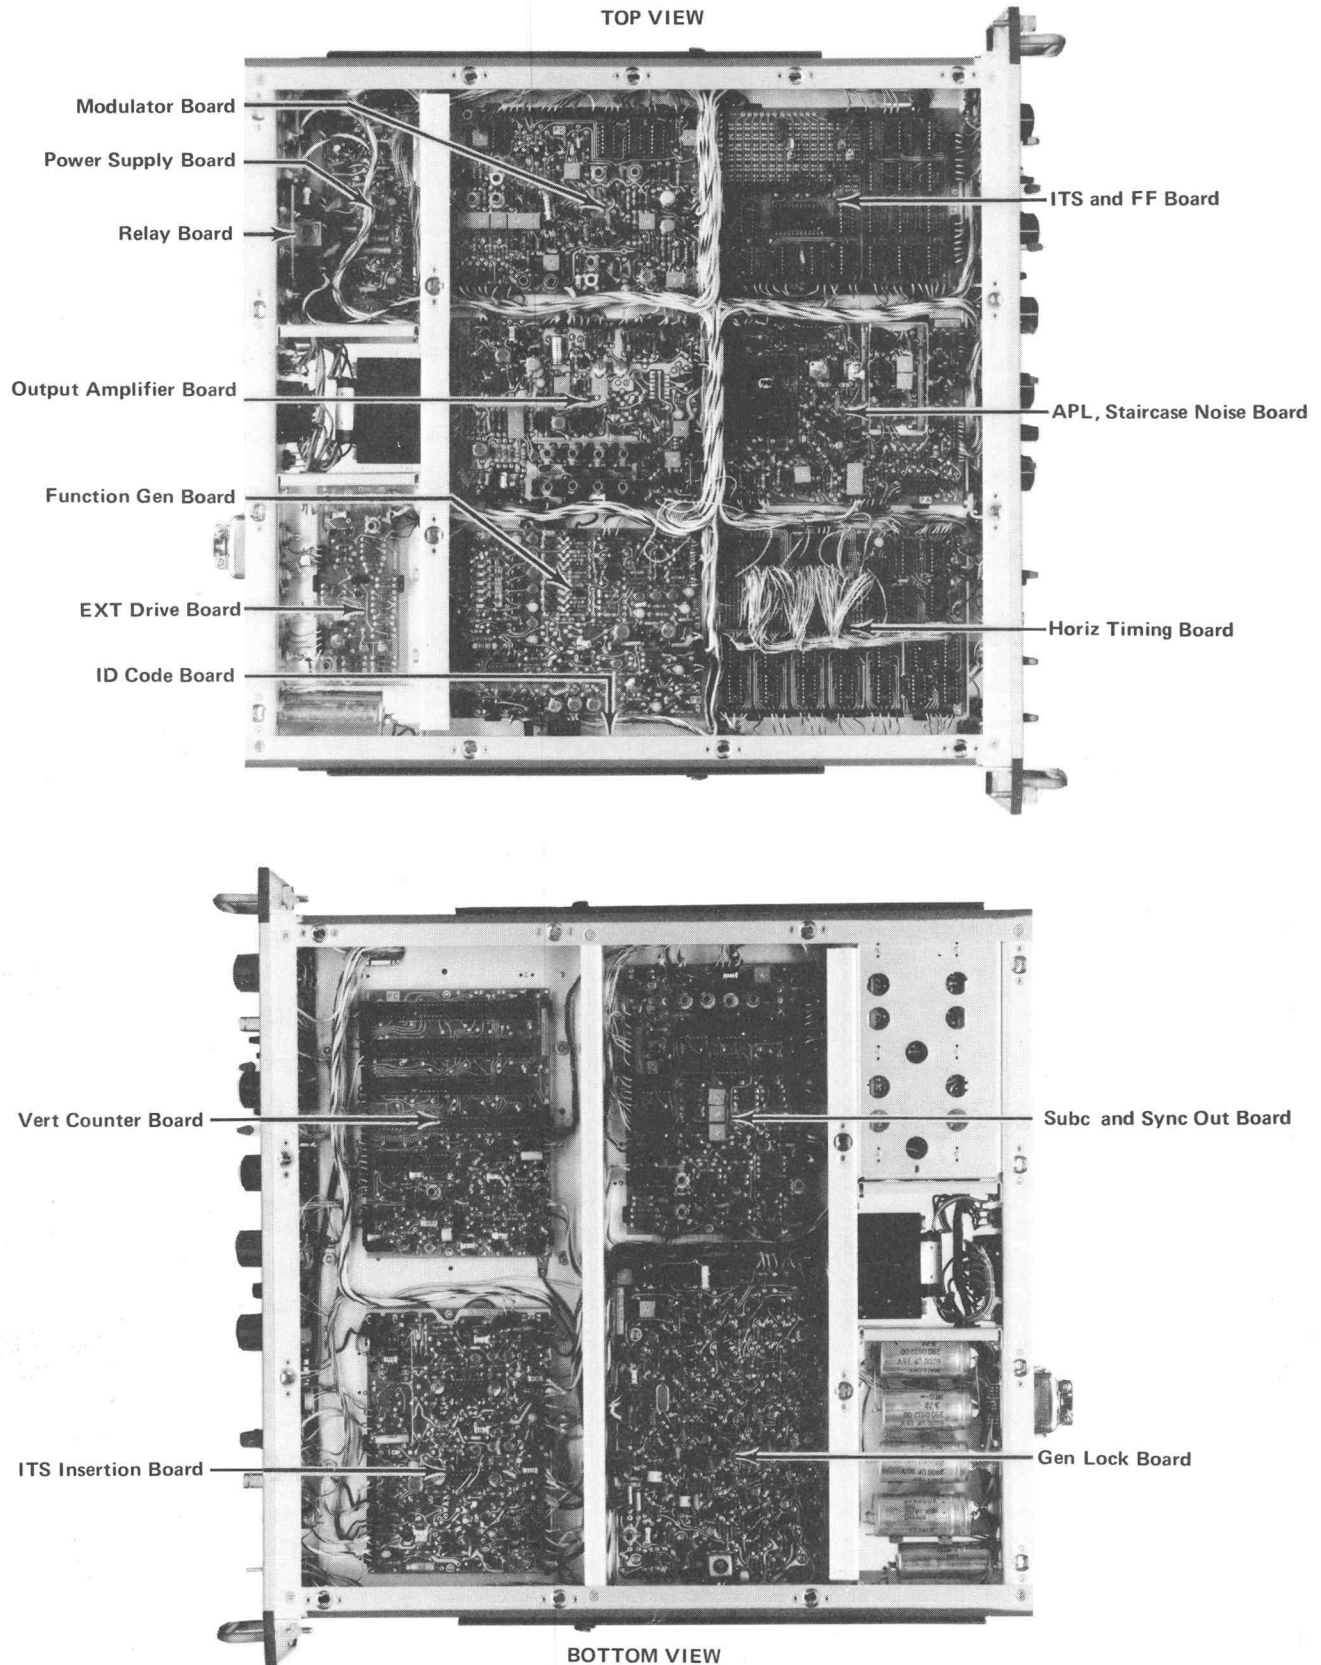

Fig. 4-1. Location of circuit boards in the 148.
**Circuit Boards.** Fig. 4-1 shows the location of each circuit board within the instrument. Each circuit board is shown (full view) opposite the appropriate diagram in the diagram section. Each electrical component on the board is identified by its circuit number. In most cases, these circuit numbers were assigned on a grid system as a convenience to the user of the instrument. For example, notice the circuit board photo opposite diagram 0a. The upper left hand corner of this board has been assigned numbers around 500.